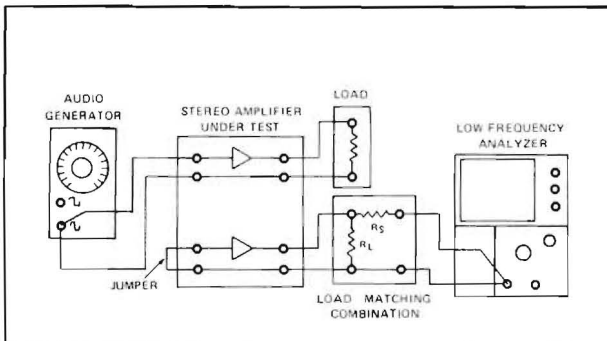

Figure 46 Setup for Measurement of Crosstalk
1. Set up the equipment as shown in Figure 46. The switches may be deleted by plugging the input signal into various jacks as desired. All channel outputs must be properly terminated and unused inputs have a shielded matching resistor and not a shorting jumper connected from input to ground. Set all controls for a flat response and the volume control to maximum.